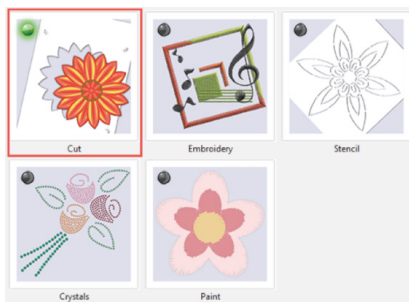

Fig. 6
2. Place a bullet in the Stencil technique option (Fig.6). Remove the bullets from all other techniques and click <OK>